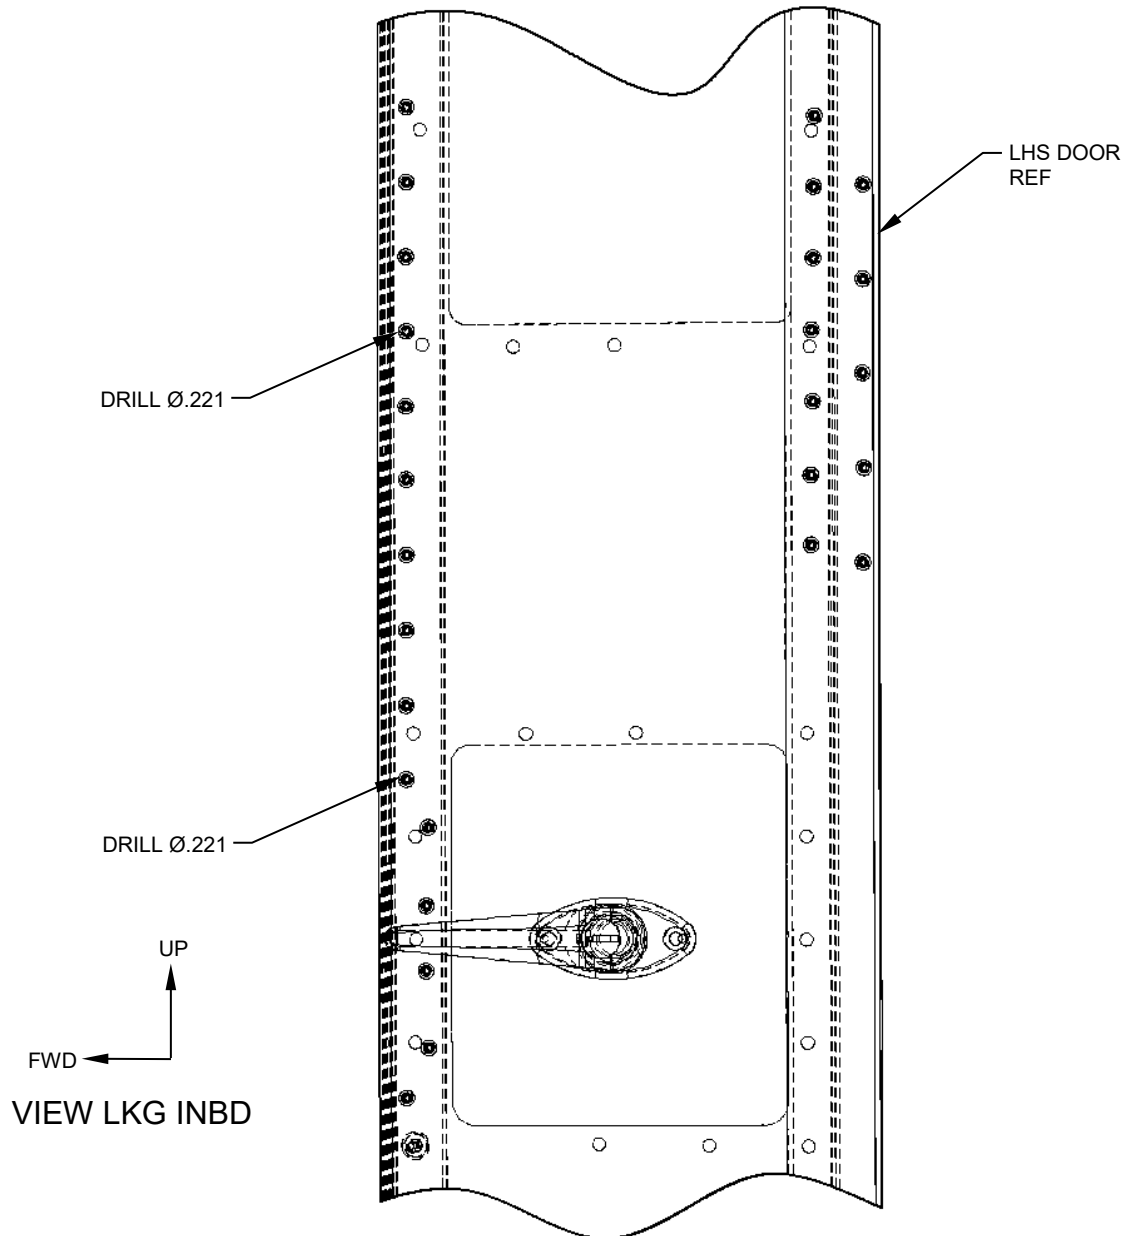

Figure 15
2. Drill out and upsize indicated rivets to Ø.221 (#2). Reference Figure 15.